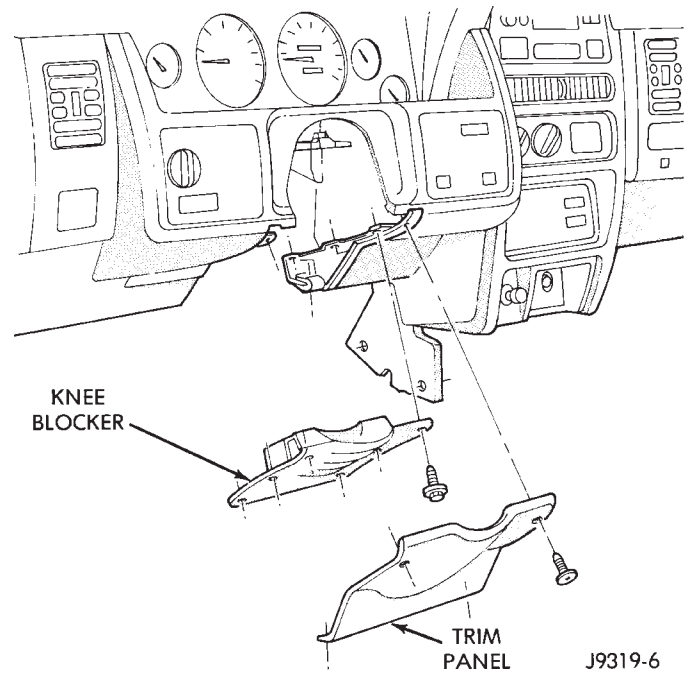

Fig. 6 Trim Panel Column Cover
- (5) Remove the trim panel column cover and support plate (Fig. 6).
- (6) Remove tilt lever (if equipped) from column.